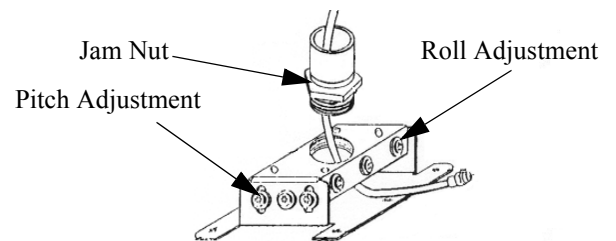

Figure 8. Adjust Yaw, Pitch, and Roll
5. If desired, route cables through RPA as shown in Figure 8.